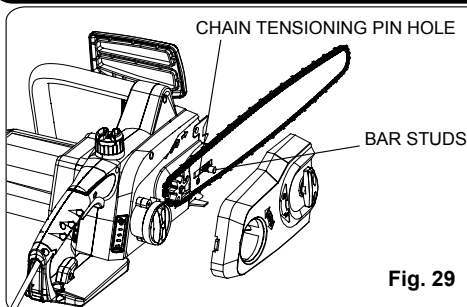

Fig. 29
- When placing the bar on the bar studs, ensure that the adjusting pin is in the chain tension pin hole. (See Fig.29)